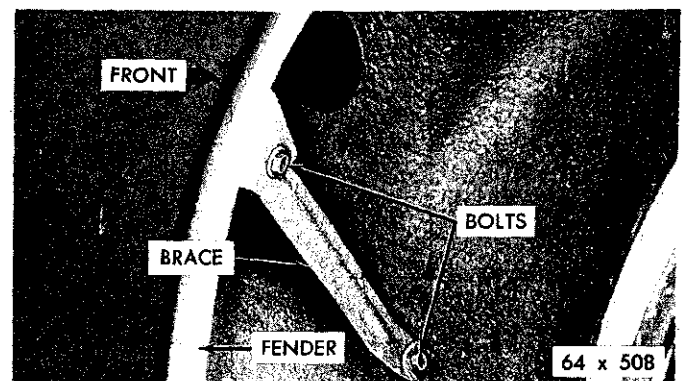

Fig. 6—Splash Shield to Cowl Mounting
- (6) Remove the bolts attaching the splash shields to the cowl (Fig. 6).